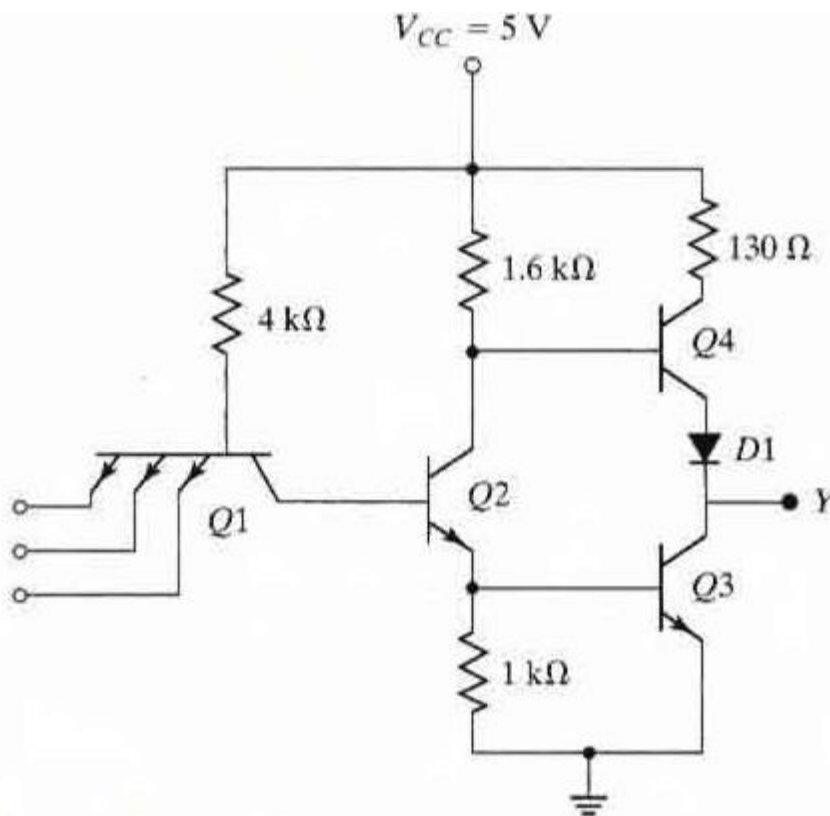

Fig. 8 TTL gate with totem pole output
- The figure 8 is called as totem pole because transistor Q_4 "s its" upon Q_3 .